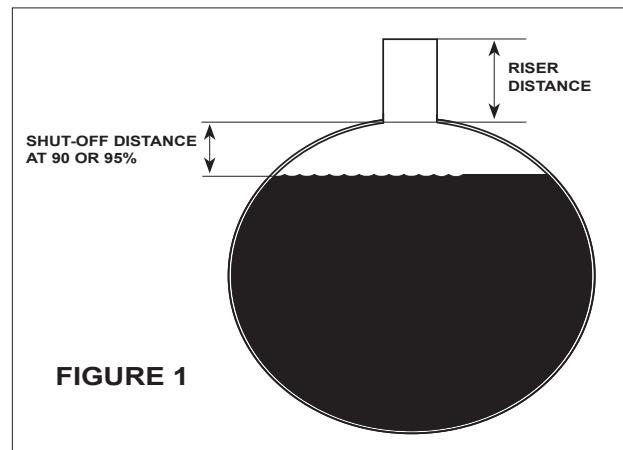

FIGURE 1
2. Determine the desired SHUT-OFF DISTANCE AT 90 or 95% full (See Fig. 1 & Mfg. tank ullage chart).
4. Measure from the top of the tank up to the point where the valve is to be attached, this is the Riser Distance shown in Fig. 1. Record this length.